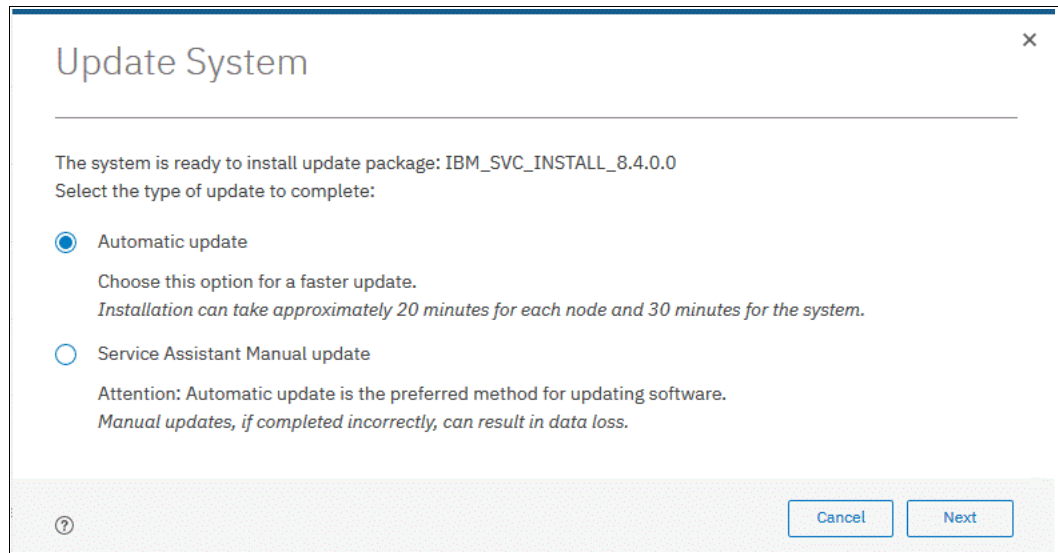

Figure 13-18 The update type selection
5. Select the type of update you want to perform, as shown in Figure 13-18. Select **Automatic update** unless IBM Support suggests **Service Assistant Manual update**. The manual update might be preferable in cases where misbehaving host multipathing is known to cause loss of access. Click **Next** to begin the update package upload process.